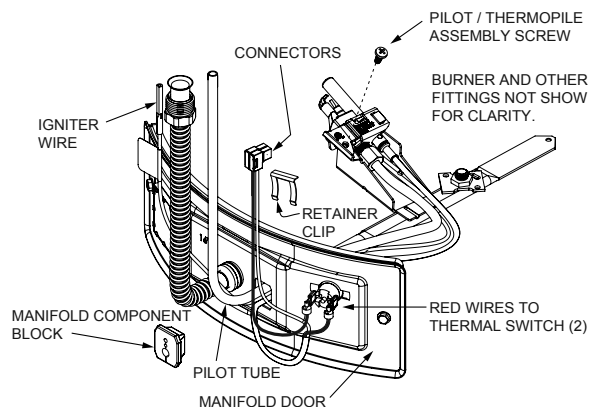

**FIGURE 34.**
1. Take off the burner by removing the two (2) screws located underneath the burner. **IMPORTANT:** DO NOT remove the orifice.
2. Check the burner to see if it is dirty or clogged. The burner may be cleaned with soap and hot water (Figure 34).
2. Natural Gas/LP Models - Remove the burner to access the pilot/thermopile assembly. Remove and keep the screws securing the burner to the manifold (Figure 34).
8. Using the pilot/thermopile assembly screw removed earlier reattach the new pilot/thermopile assembly. Reattach the burner to the manifold using the screws removed earlier. NOTE: make sure the burner scoop is oriented to the pilot side of the manifold tube (Figure 34).